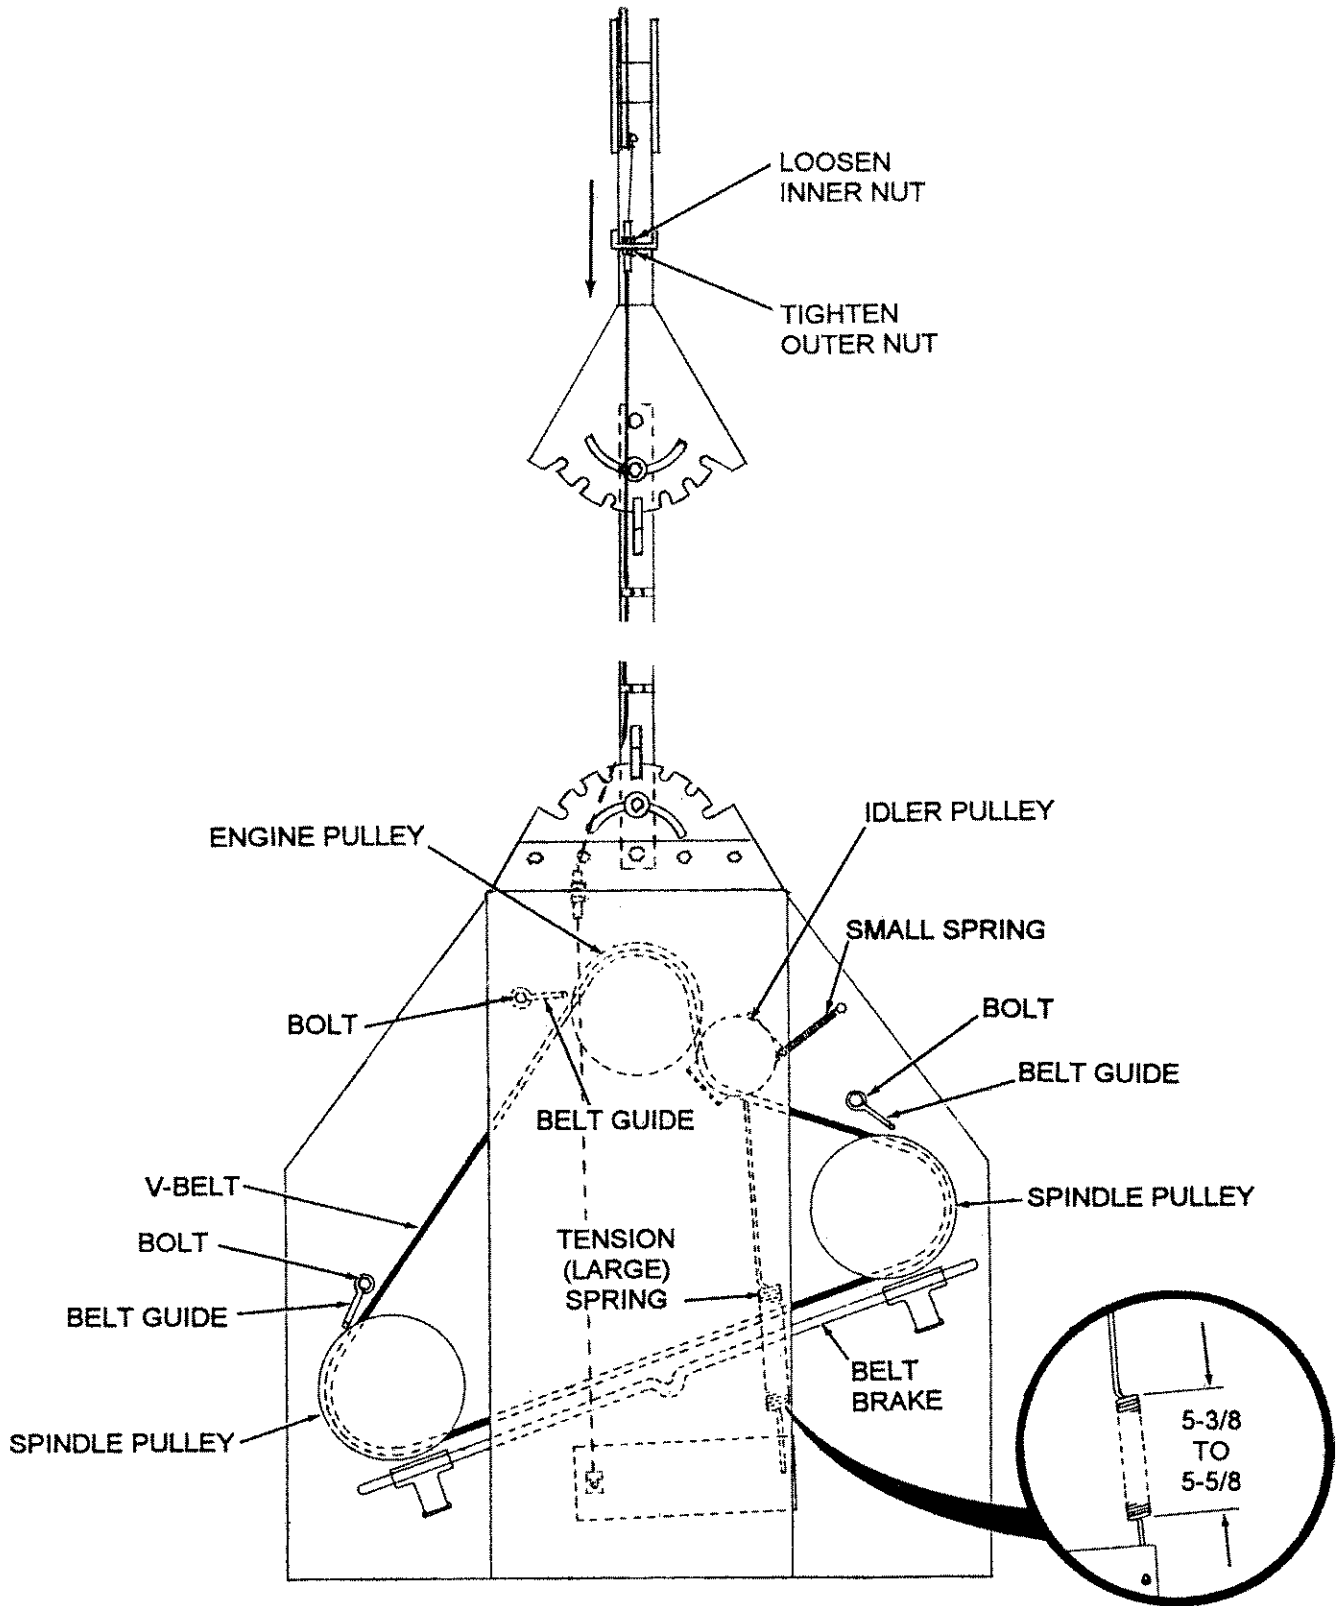

FIG. 9
- Remove two belt covers. (See Fig 9)
- Check tension spring length. It should be 5-3/8" to 5-5/8" over the coils of the Spring Body. See Fig. 9.